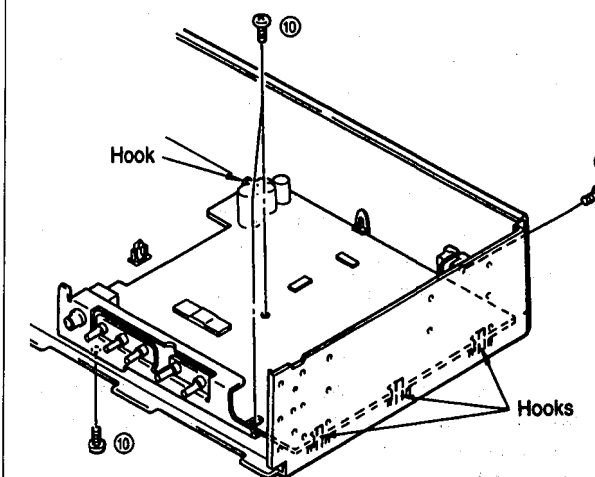

Fig. 9
9. Removal of P.C.B. Main (1)
- Remove 4 screws (⑩) and detach 4 hooks in Fig. 9.